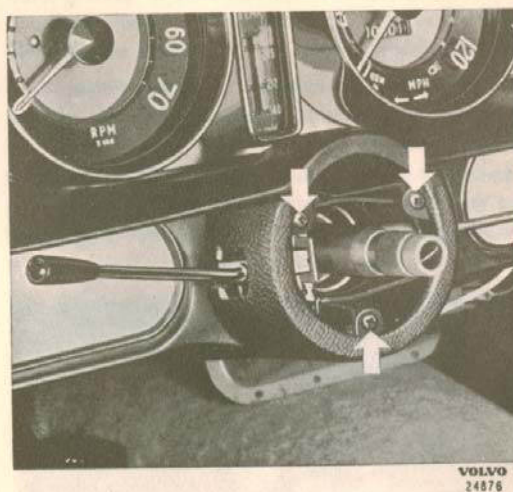

Fig. 10-73. Removing the switch casing
2. Unscrew the screws which hold the switch casing, see Fig. 10-73.